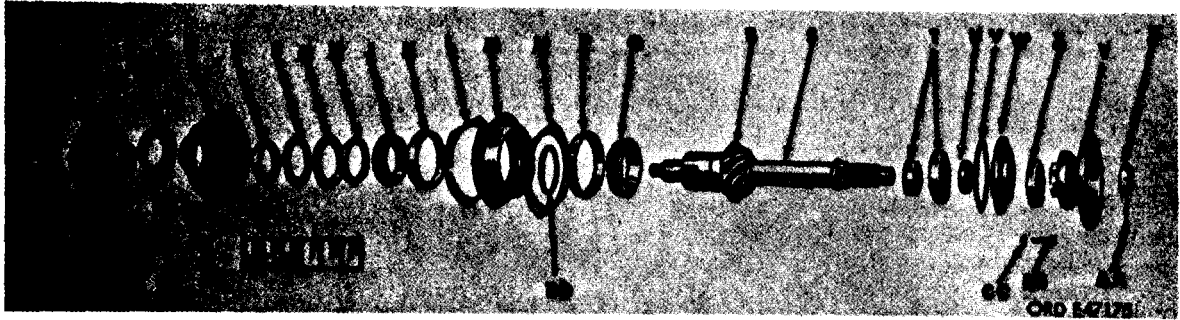

Figure 385. Hypoid drive pinion - exploded view
- (k) Using a soft hammer, tap lightly on end of hypoid pinion drive shaft (S) opposite hypoid pinion outer bearing cage (M) and remove shaft from carrier assembly (F, fig. 383). Remove hypoid pinion cage shims (N). Tie shims to hypoid pinion front bearing cage cover (D) to facilitate correct assembly and assist in securing correct pinion setting. Refer to figure 385.
- (l) Using remover and replacer 5120-795-0079, drive rear hypoid pinion bearing (T) from carrier. Remove hypoid pinion bearing inner race from hypoid pinion drive shaft (S). Refer to figure 385.
- (m) Place hypoid pinion drive shaft (S) in vise (equipped with soft jaws) and remove outer hypoid-bearing adjusting nut (F), hypoid pinion bearing adjusting nut washer (G), and inner hypoid pinion-bearing adjusting nut (H). Using a soft hammer tap lightly on hypoid pinion outer bearing cage (M) to remove hypoid pinion outer bearing cone (J) from shaft and permit removal of bearing cage from shaft. Remove hypoid pinion bearing spacer (DD). Pull hypoid pinion inner bearing cone (Q) from shaft, using a suitable puller. Refer to figure 385.
- (n) Using bearing remover and replacer 5120-795-0159, press hypoid pinion outer bearing cup (K) from hypoid pinion outer bearing cage (M). Use a small punch to dislodge hypoid pinion inner bearing cup (P) from its seat in cage. This will permit full contact between bearing cup and the shoulders on bearing remover. Complete disassembly of pinion bearing cage by pressing inner cup from cage with remover. Refer to figure 385.
- (o) Support hypoid drive pinion (R) firmly on arbor press and press hypoid pinion drive shaft (S) from pinion. Remove key from shaft. Refer to figure 385.